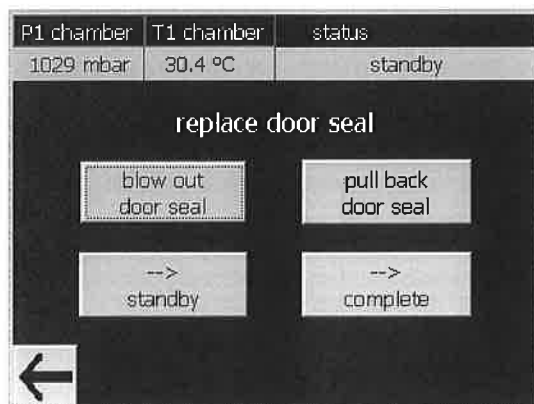

Figure 16-5: replace door seal
- The door seal can be removed with the 'replace door seal' function in the operating panel maintenance menu (refer to Figure 16-5):